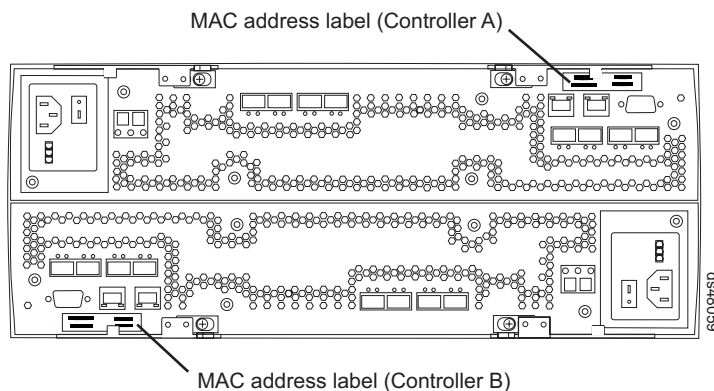

Figure 5. MAC address labels on DS4800 RAID controllers
15. If you use out-of-band (direct) management and assign IP addresses to the DS4800 controllers using Dynamic Host Configuration Protocol (DHCP) based on the DS4800 controller MAC addresses, you must upgrade your DHCP server with the new MAC addresses for the replacement DS4800 controllers in the upgrade kit. You can find the MAC addresses on the controller near the Ethernet ports. Figure 5 shows the location of the MAC address labels.